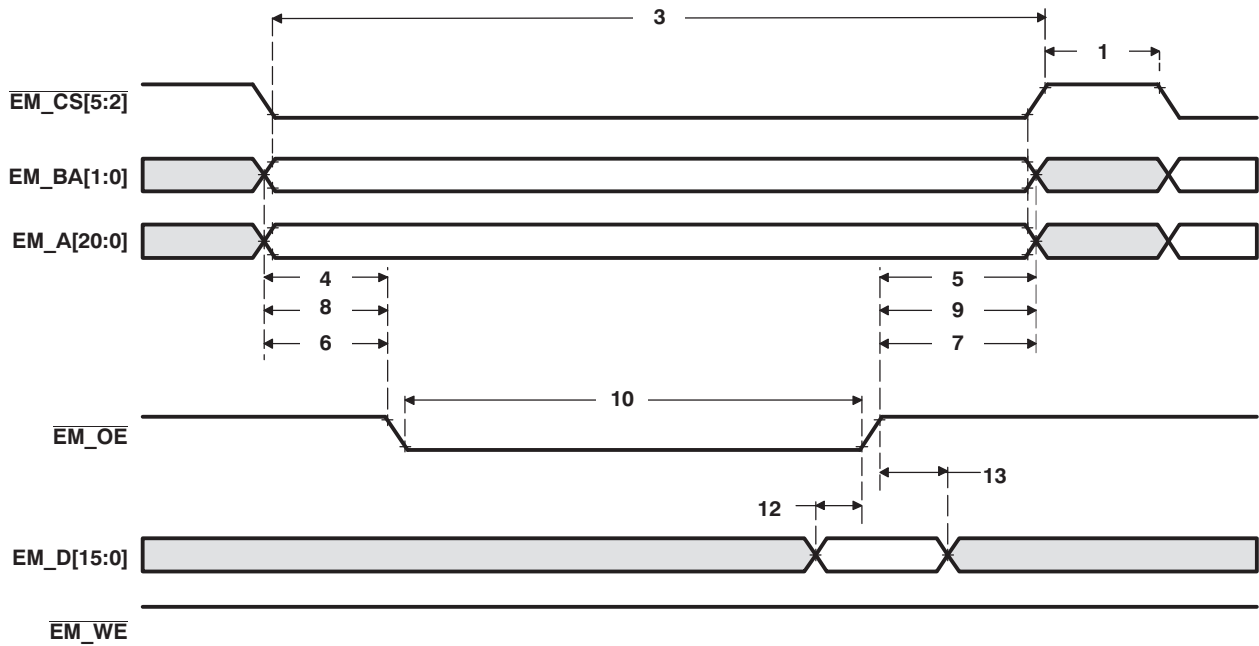
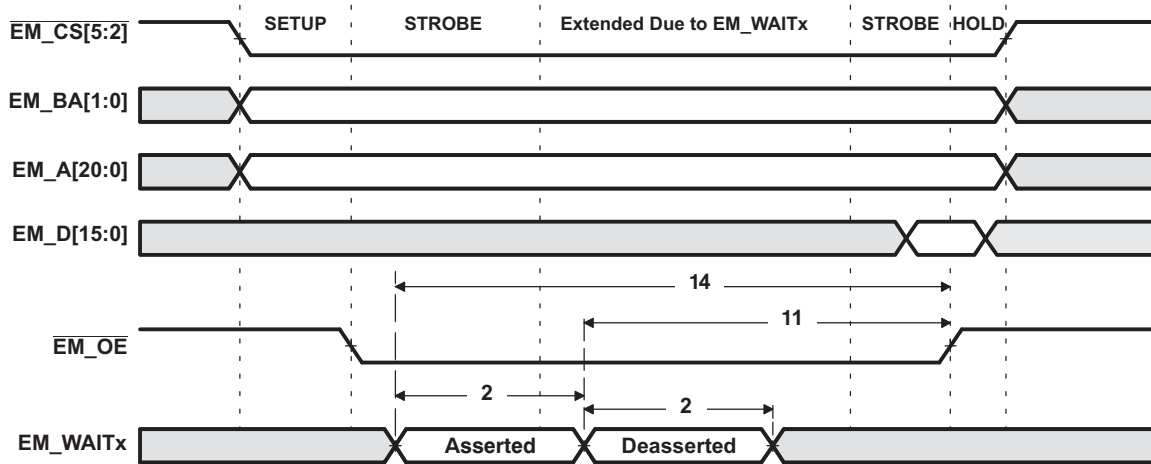
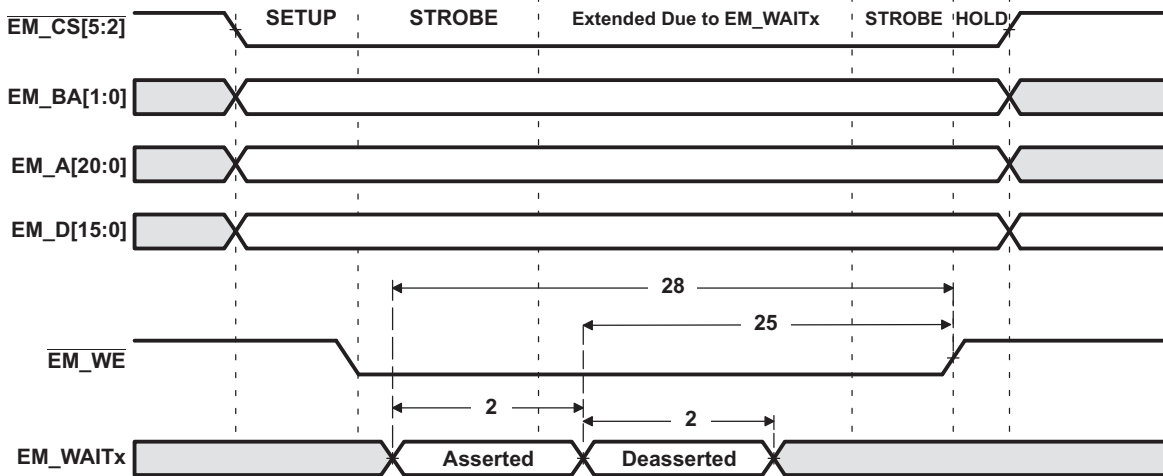

Figure 5-17. Asynchronous Memory Read Timing for EMIF
Figure 5-19. EM\_WAITx Read Timing Requirements
Figure 5-20. EM\_WAITx Write Timing Requirements
(1) Timing parameters are obtained with 10pF loading on the EMIF pins.
(2) E = SYSCLK period in ns. For more detail on the EM\_SDCLK speed see Section 5.9.2, EMIF Non-Mobile and Mobile Synchronous DRAM Memory Supported.
**Table 5-19. Timing Requirements for EMIF Asynchronous Memory(1)(2) (see Figure 5-17, Figure 5-19, and Figure 5-20)**
(2) E = SYSCLK period in ns. For example, when SYSCLK is set to 100/120 MHz, E = 10/8.33 ns, respectively.
(3) Setup before end of STROBE phase (if no extended wait states are inserted) by which EM\_WAITx must be asserted to add extended wait states. Figure 5-19 and Figure 5-20 describe EMIF transactions that include extended wait states inserted during the STROBE phase. However, cycles inserted as part of this extended wait period should not be counted; the 4E requirement is to the start of where the HOLD phase would begin if there were no extended wait cycles.
**Table 5-20. Switching Characteristics Over Recommended Operating Conditions for EMIF Asynchronous Memory(1)(2) (3) (4) (see Figure 5-17, Figure 5-19, and Figure 5-20)**
(2) TA = Turn around, RS = Read setup, RST = Read strobe, RH = Read hold, WS = Write setup, WST = Write strobe, WH = Write hold, MEWC = Maximum external wait cycles. These parameters are programmed via the Asynchronous Configuration and Asynchronous Wait Cycle Configuration Registers.
(3) E = SYSCLK period in ns. For example, when SYSCLK is set to 100/120 MHz, E = 10/8.33 ns, respectively.
(4) EWC = external wait cycles determined by EM\_WAITx input signal. EWC supports the following range of values EWC[256-1]. Note that the maximum wait time before timeout is specified by bit field MEWC in the Asynchronous Wait Cycle Configuration Register.
Table 5-20. Switching Characteristics Over Recommended Operating Conditions for EMIF Asynchronous Memory(1)(2) (3) (4) (see Figure 5-17, Figure 5-19, and Figure 5-20) (continued)